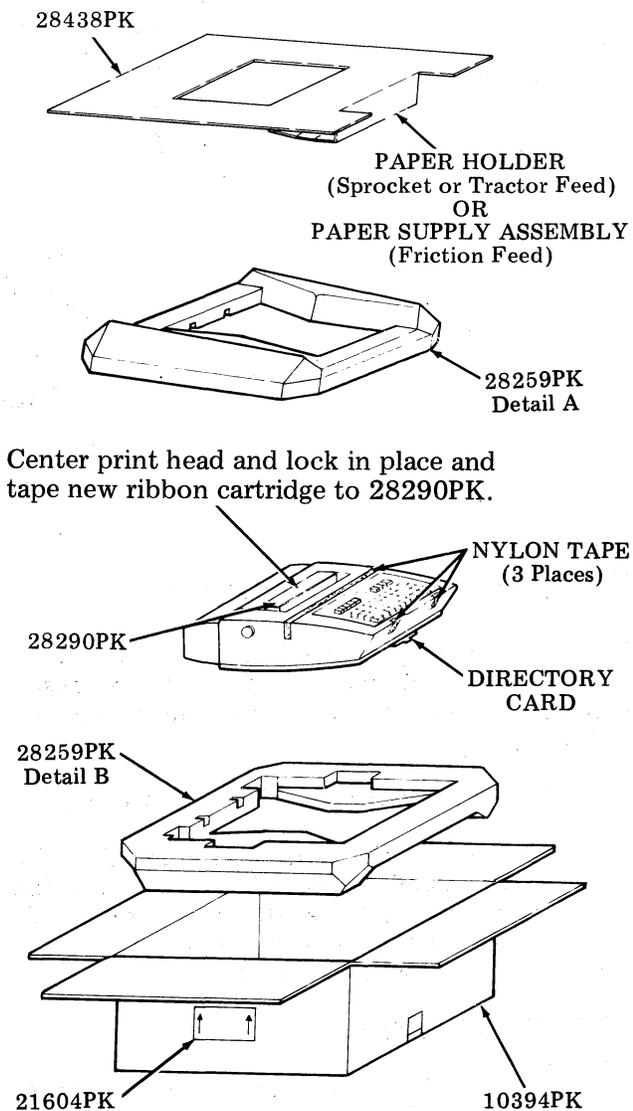

Fig. 7—Packing Details
6.04 Using the containers and packing details retained in 3.05, pack the 43 Teleprinter (Fig. 7).